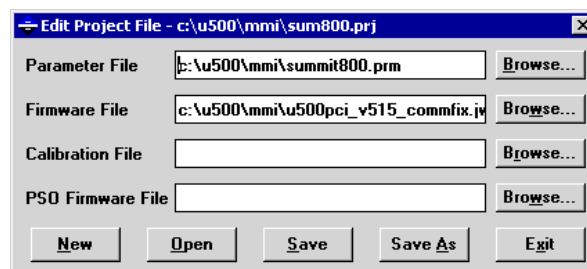

Figure 8-33 The Edit Project File Popup
2. Observe the Edit Project File window; see Figure 8-33.